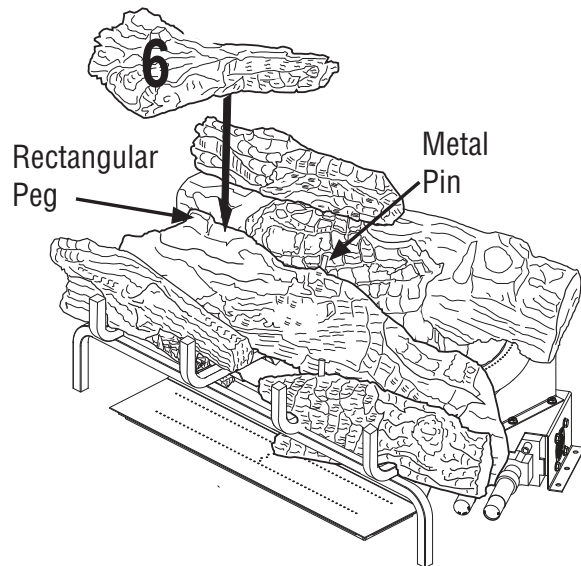

Figure 26 - Installing Log # 6
6. Place the left top forked log (#6) on the top of the middle log (#2). Match the rectangular projection on top of the middle log (#2) with the rectangular hole on the bottom of the left top forked log (#6). Match the metal pin on the top of the middle log (#2) with the round hole in the bottom of the left top forked log (#6). See *Figure 26*.